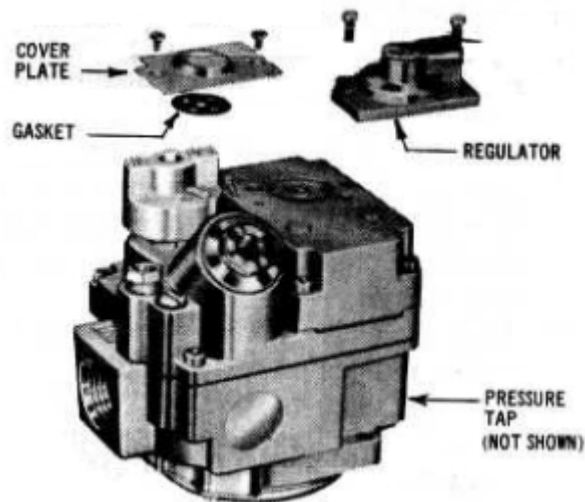

Figure 8.3: DE-50 and Larger Gas Valve Regulator Assembly
2. Remove (refer to figure 8.3 on page 44):